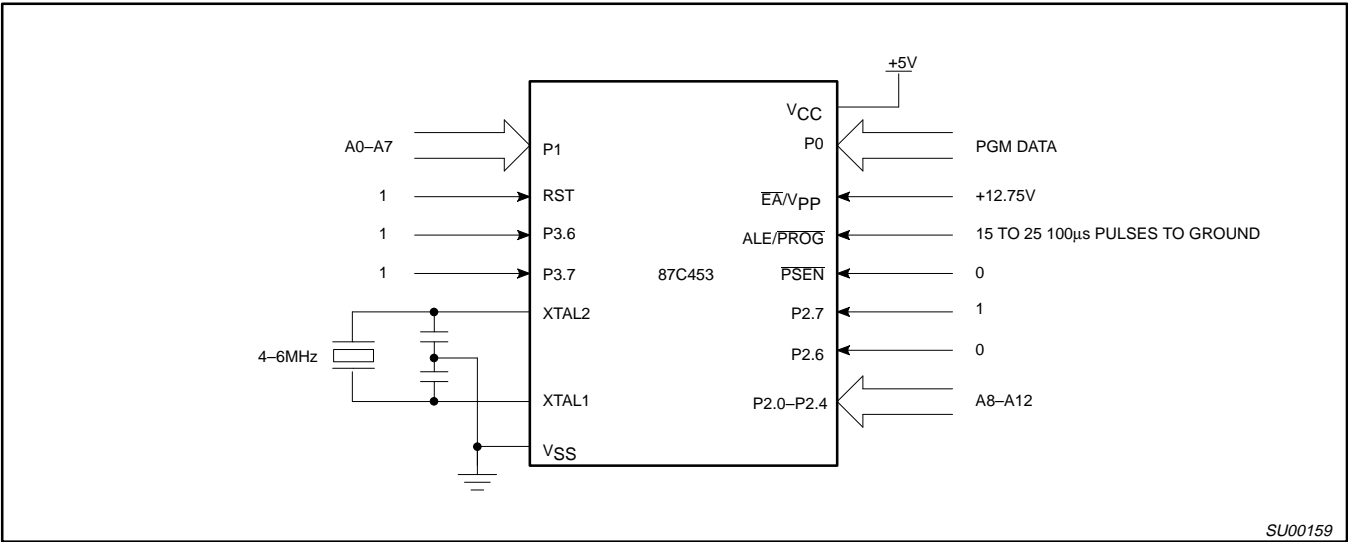
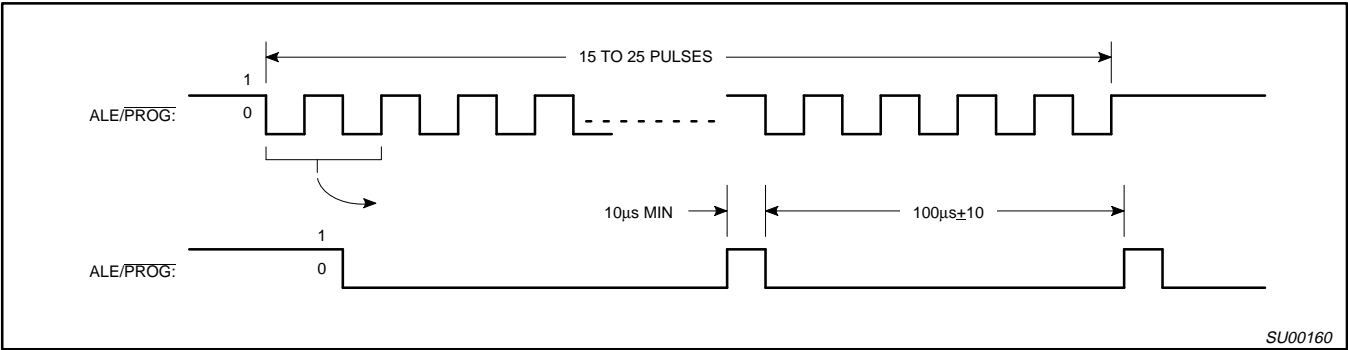
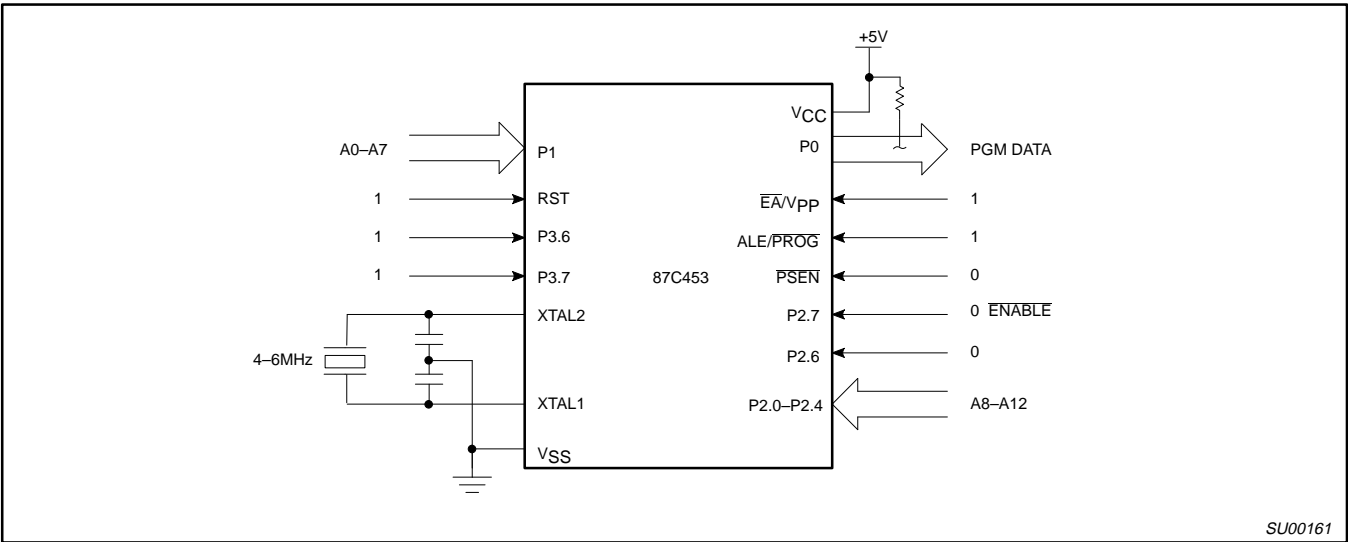

Figure 25. Programming Configuration
Figure 26. PROG Waveform
Figure 27. Program Verification
Table 4 shows the logic levels for reading the signature byte, and for programming the program memory, the encryption table, and the lock bits. The circuit configuration and waveforms for quick-pulse programming are shown in Figures 25 and 26. Figure 27 shows the circuit configuration for normal program memory verification.
The setup for microcontroller quick-pulse programming is shown in Figure 26. Note that the 87C453 is running with a 4 to 6MHz oscillator. The reason the oscillator needs to be running is that the device is executing internal address and program data transfers.
The address of the EPROM location to be programmed is applied to ports 1 and 2, as shown in Figure 25. The code byte to be programmed into that location is applied to port 0. RST,  $\overline{PSEN}$  and pins of ports 2 and 3 specified in Table 4 are held at the 'Program Code Data' levels indicated in Table 4. The ALE/PROG is pulsed low 15 to 25 times, as shown in Figure 26.
If lock bit 2 has not been programmed, the on-chip program memory can be read out for program verification. The address of the program memory locations to be read is applied to ports 1 and 2 as shown in Figure 27. The other pins are held at the 'Verify Code Data' levels indicated in Table 4. The contents of the address location will be emitted on port 0. External pull-ups are required on port 0 for this operation.
- \* FOR PROGRAMMING VERIFICATION SEE FIGURE 25.
FOR VERIFICATION CONDITIONS SEE FIGURE 27.